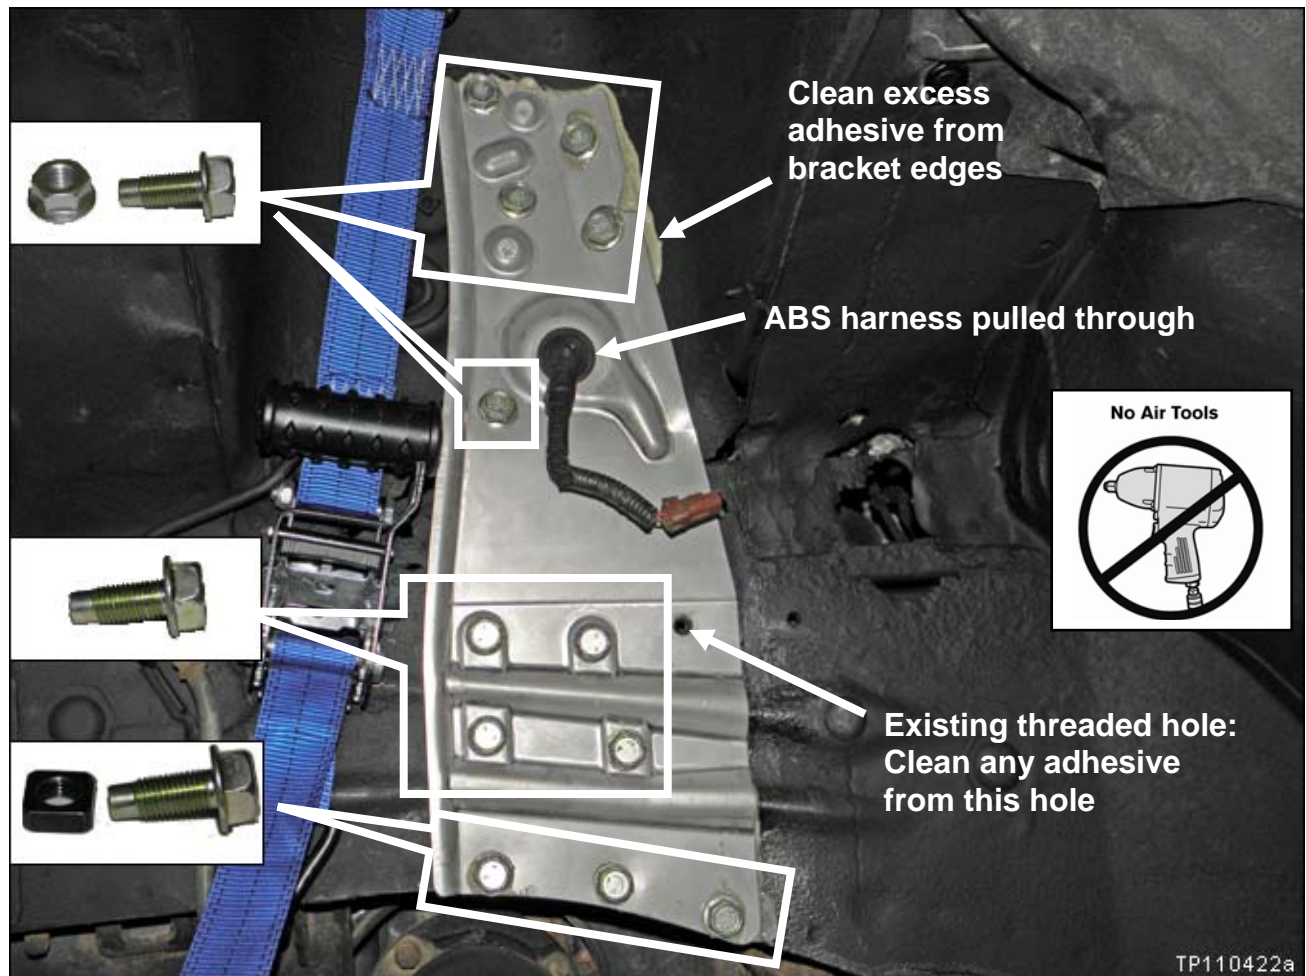

Figure RB25 – Driver side
- Use the correct nuts (see Figure RB25, or RB26 on next page, as it applies).
- Driver side, see Figure RB25.